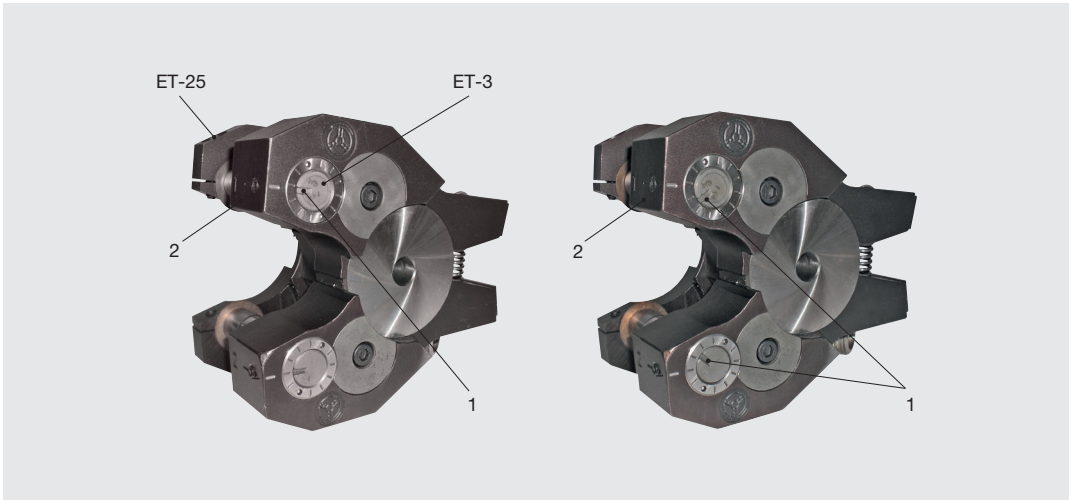

Fig. 23: Correcting the axis inclination
- It is now possible to slightly pull out and turn the roll axis (3).
The roll axes are marked on the gear unit arm side with a slot (1). This points to the marking (2) on the rolling head arm (see Fig. 23-left) in the zero position. To increase the workpiece pitch diameter on the narrow arm side, turn the slot of both axes by the same amount against each other to the inner side of the rolling head, as depicted in Fig. 23-right. To reduce the workpiece pitch diameter on the narrow arm side, turn the markings outward.